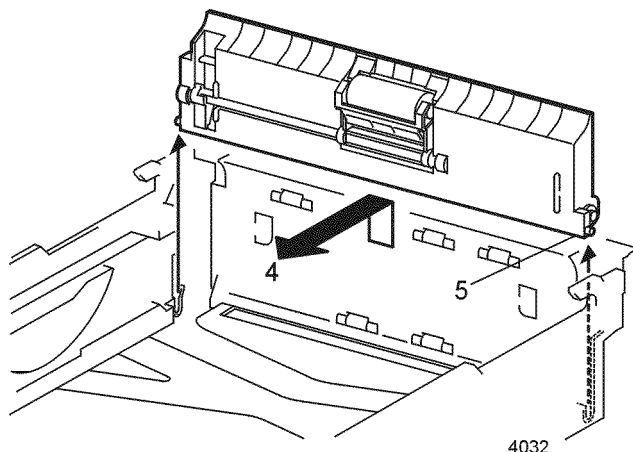

Figure 1 Retard Chute Assembly
5. Lift up on the right end of the chute (Figure 1).